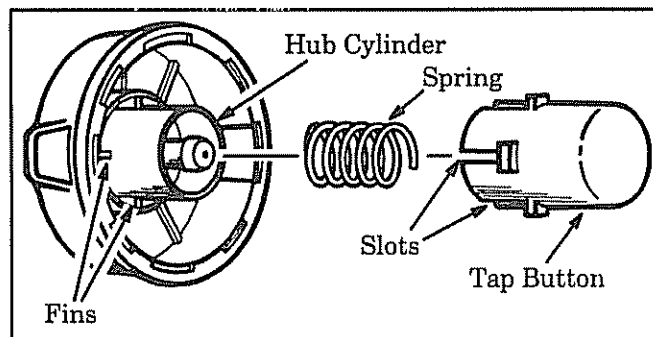

Figure 16
- Place the spring in the hub cylinder. Figure 16.
- Align the slots in the tap button with the fins in the base of the hub. Figure 16. Firmly push parts together.